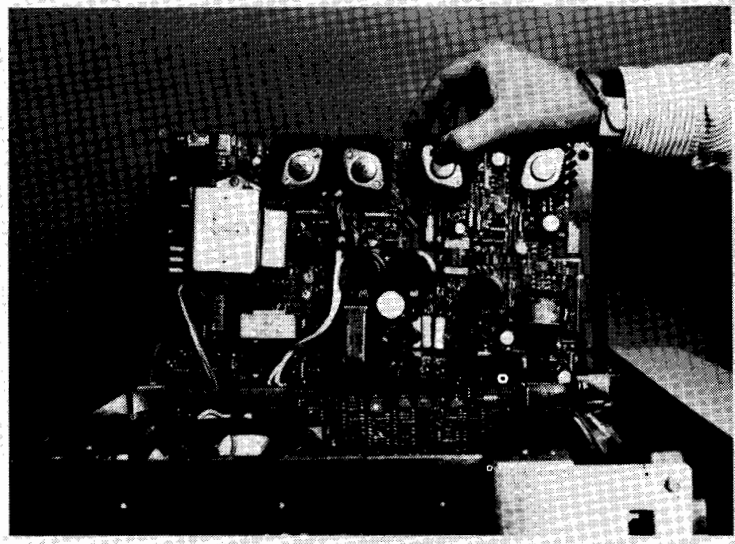

Figure 4-14. Removing the CRT Power Supply.
5. Pull the board straight up and out of the chassis (see Figure 4-14).